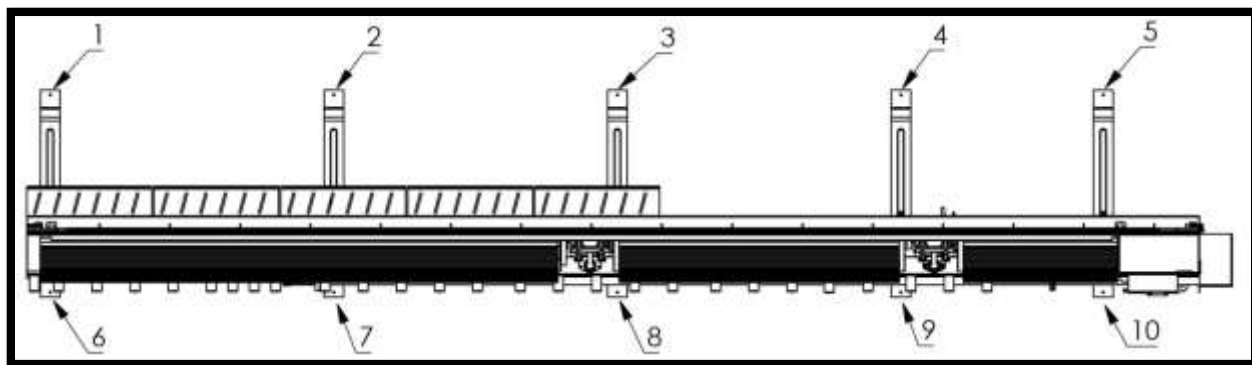

Figure 2.4 – Chassis Fixing Holes
- 4- The machine feet are secured in place with the help of the steel dowels that come with the machine.(figure 2.4)